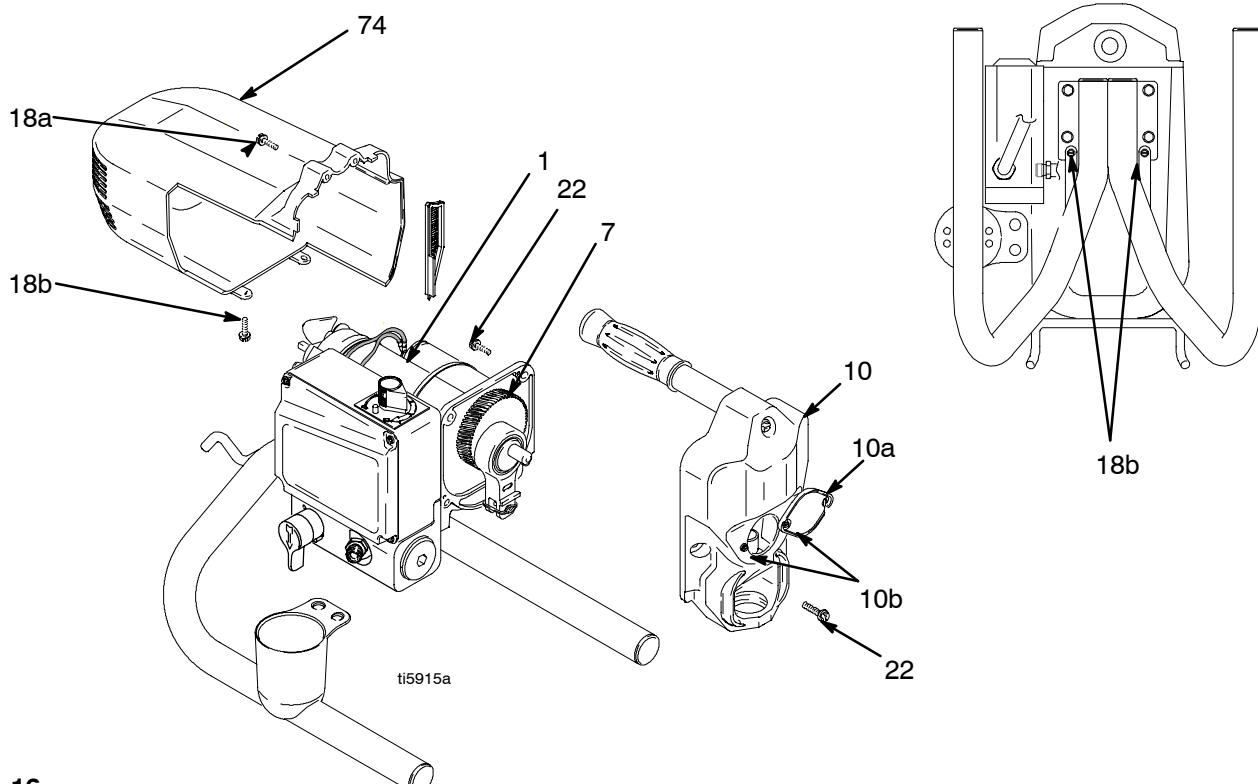

Fig. 16
2. Remove pump (13); **Displacement Pump Replacement**, page 26.
3. Fig. 16. Remove two screws (18a).Tip sprayer up. Remove two screws (18b) and remove shroud (74).
4. Remove two front screws (22).
5. Remove two back screws (22).
6. Pull drive housing (10) off of motor (1).
1. Push drive housing (10) onto motor (1)
2. Install two front screws (22).
3. Install two back screws (22).
4. Fig. 16. Install shroud (74) with two screw (18a).Tip sprayer up. Install two screws (18b).
5. Install pump (13); **Displacement Pump Replacement**, page 26.